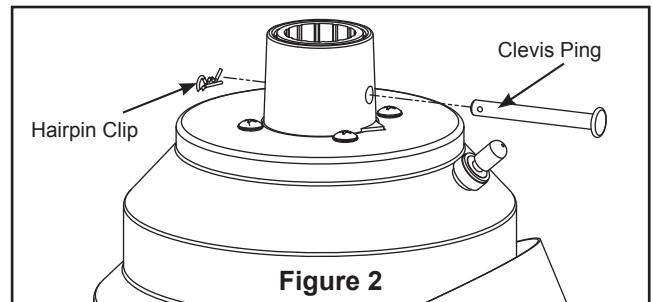

Figure 2
1. Remove the hairpin clip and clevis pin from the bottom of the downrod support. Retain the pin and clip for reinstallation in Step 3. (Figure 2)